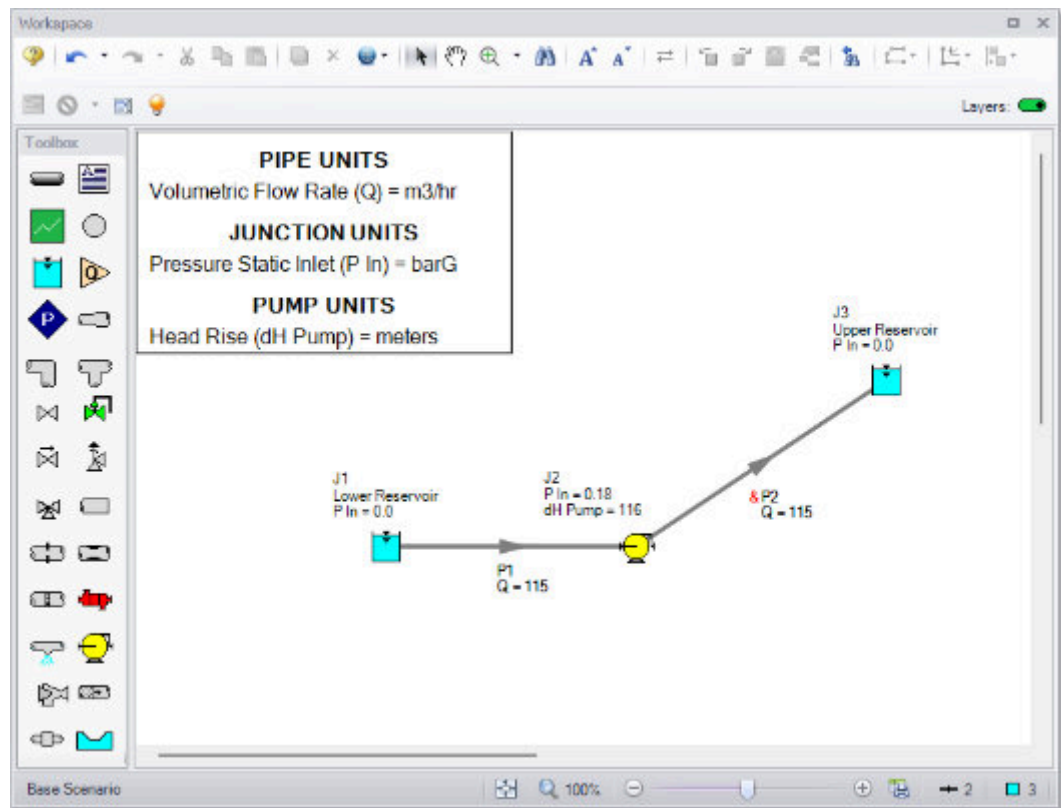

Figure 2.28 Results are superimposed on the model layout via Workspace Layers
- ▶ **Add additional clarity by repositioning the labels and adding a legend.** It is common for the text on the Workspace Layers to overlap with objects when first generated. Labels can be dragged to a new area or a smaller font can be selected using the Font Decrease icon on the Workspace Toolbar or from within the Global Layer Settings. Parameter units can be consolidated in a legend which can be added via the Global Layer Settings. In the Layers Toolbar, click the double gear icon to open the Global Layer Settings. Then, enable the checkbox for Show Units in Legend. The result of these adjustments is shown in Figure 2.28.